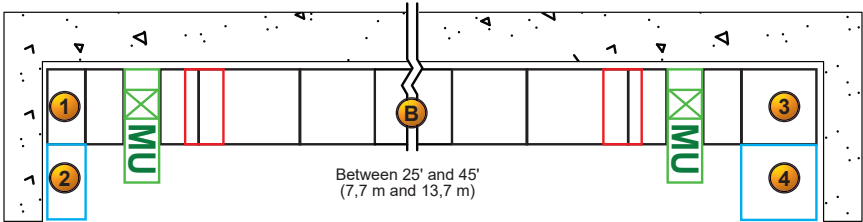

fig. 6.5
- ① 1500 lb (680 kg)
- ② 300 lb (136 kg)
- ③ 1000 lb (454 kg)
- ④ 300 lb (136 kg)
- Ⓑ For the load capacities of the bearing bridges in the setups illustrated in fig. 6.5, refer to the bearing bridge capacities illustrated in fig. 6.4, p. 76.